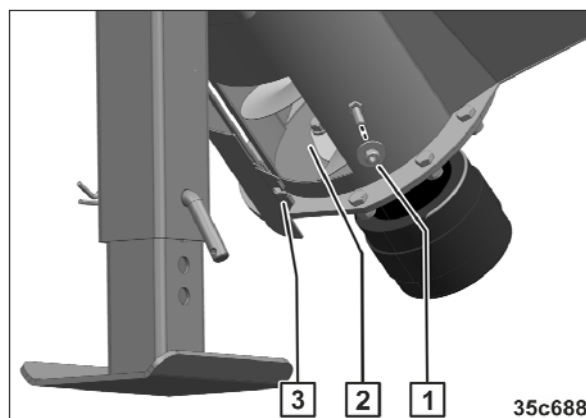

Fig. 247
2. Remove the nut and disc (Fig. 247/1).
3. Open the flap (Fig. 247/3).